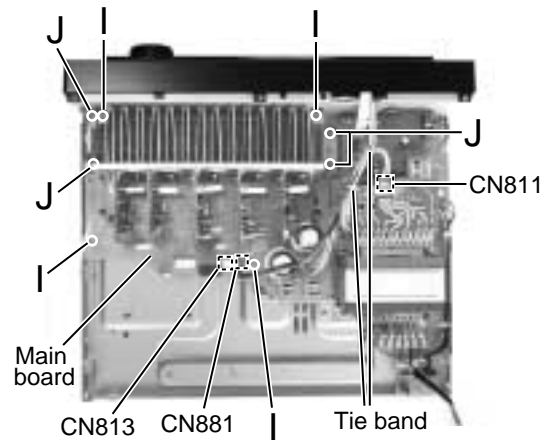

Fig.15
■ Removing the main board (See Fig.15)